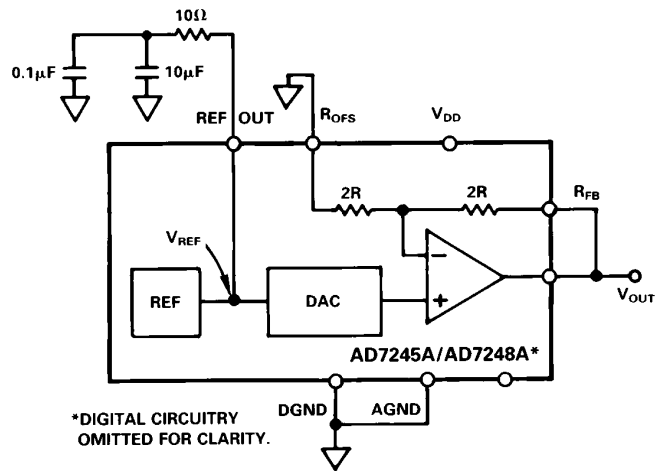

Figure 8. Unipolar (0 to +10 V) Configuration
*REFERENCE DECOUPLING COMPONENTS AS PER FIGURE 8
The first of the configurations provides an output voltage range of 0 V to +10 V. This is achieved by connecting the bipolar offset resistor, R_{OFS} , to AGND and connecting R_{FB} to V_{OUT} . In this configuration the AD7245A/AD7248A can be operated single supply ($V_{SS} = 0 \text{ V} = \text{AGND}$). If dual supply performance is required, a V_{SS} of -12 V to -15 V should be applied. Figure 8 shows the connection diagram for unipolar operation while the table for output voltage versus the digital code in the DAC latch is shown in Table III.